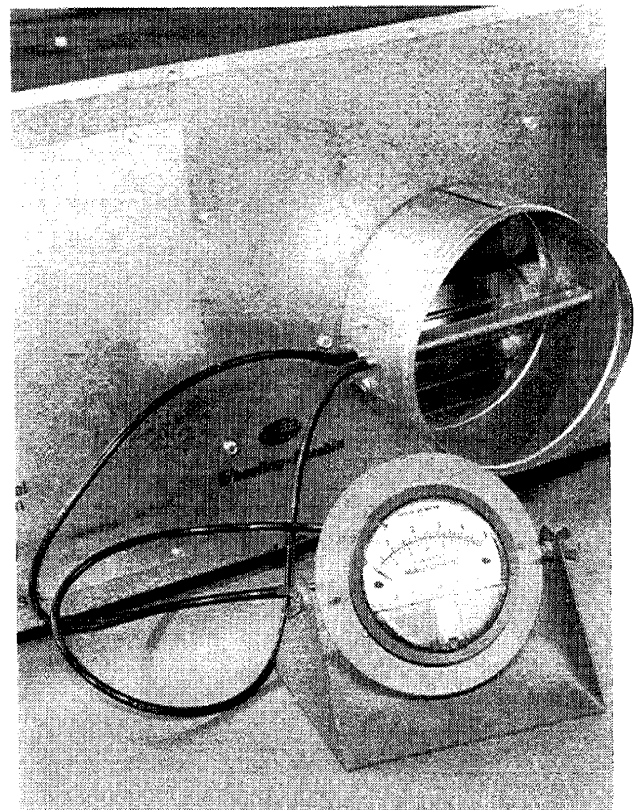

Fig. 29 – Measuring Differential Pressure
6. See Fig. 29. Connect a Magnehelic gage, inclined manometer or other differential pressure measuring device to the balancing taps provided in the velocity probe sensor lines. The manometer should have a full scale reading of 0.0 to 1.0 in. wg. The high pressure signal is delivered from the front sensor tap (away from the valve), and the low pressure signal is delivered from the back line (near the valve). The pressure differential between high and low represents the amplified velocity pressure in the inlet duct.